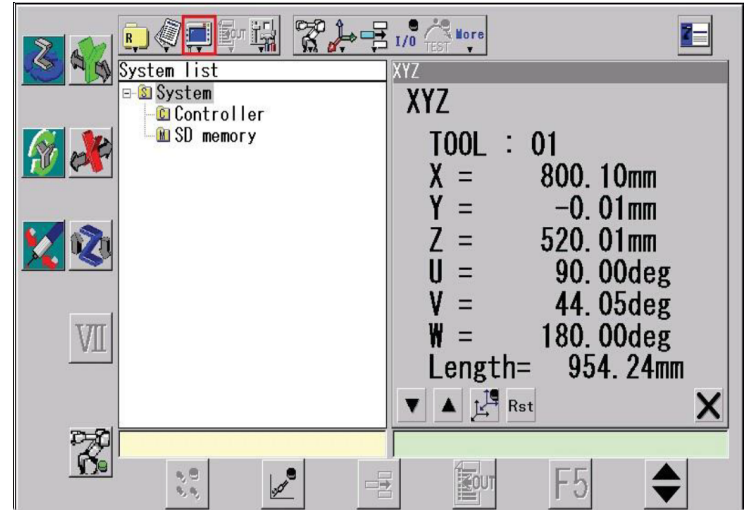

Figure 7
- Bring up the XYZ Display and set the U to 90.00 degees, and the W to -180 degrees or 180 degrees. (Figure 7)